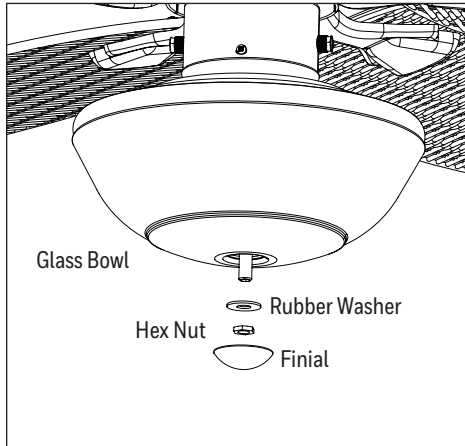

Figure 5.10
- Lift the glass bowl up until the threaded rod of the light kit is visible, then install the rubber washer and hex nut to secure it. Screw the finial onto the threaded rod of the light kit (Figure 5.10).